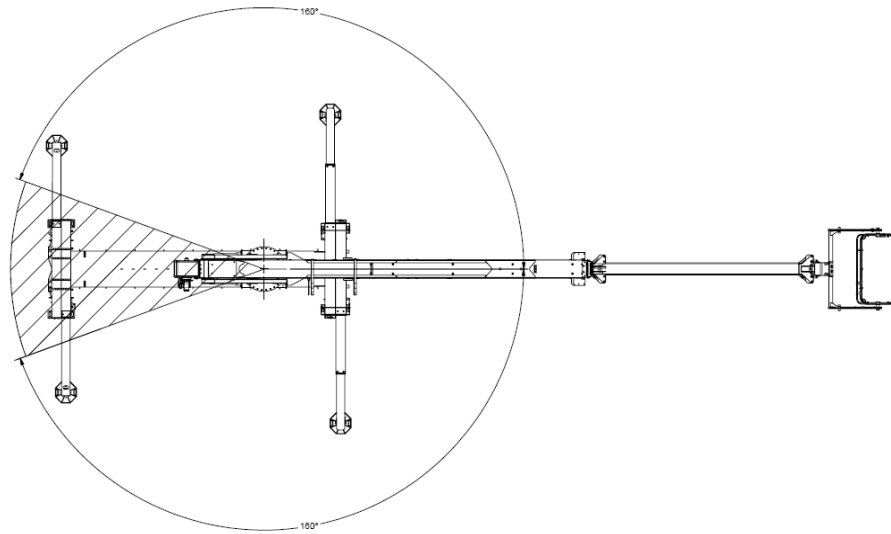

Figure 2: Platform location on ground
- D. Locate the platform at a radius corresponding to boom, retracted jib or extended jib operation mode desired, see Figures 2 and 3.